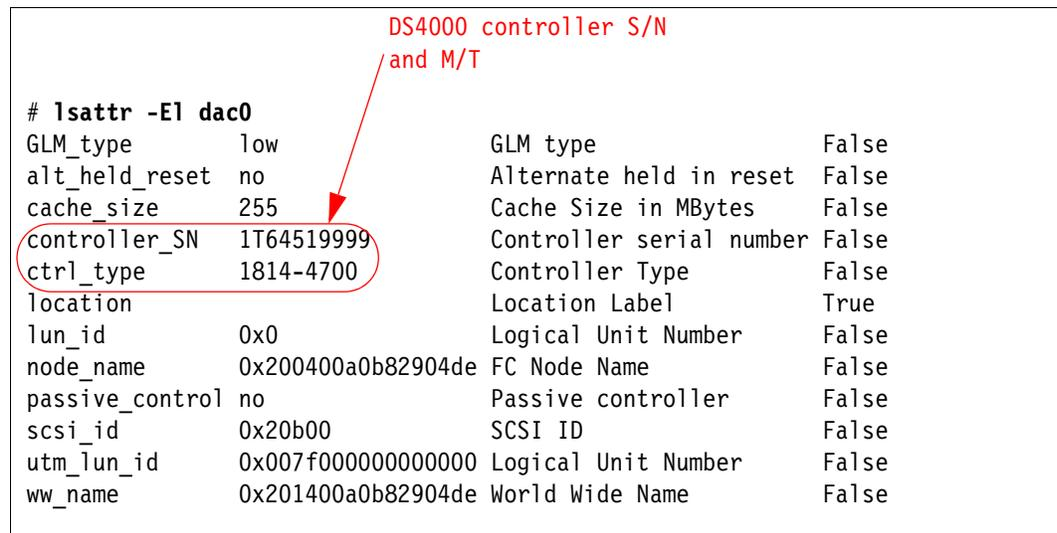

Figure 6-46 Matching dac versus controller
- **lsattr -E1 devname:** Use this command to list additional attributes of a particular device. We use it (see Figure 6-46) to know which adapter representation relates to which controller in the DS4000, and also to see disk characteristics. Matching dac versus controller is shown in Figure 6-46.